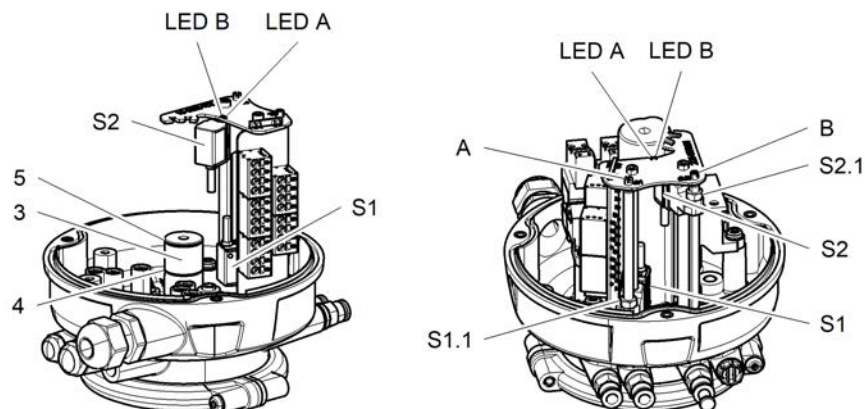

Fig.39: Control top shown without pneumatic block
3. Move sensor S1 into the detection range (3) of the target by turning it to the left (anti-clockwise) until the green LED A starts to light up slightly (orange line in Fig. 39).
4. To adjust tolerance depending on the valve type from the beginning of LED A illumination, complete the necessary spindle rotation by turning to the left (anti-clockwise) in accordance with Table 1 to add the necessary tolerance allowance (green line in Fig. 39).